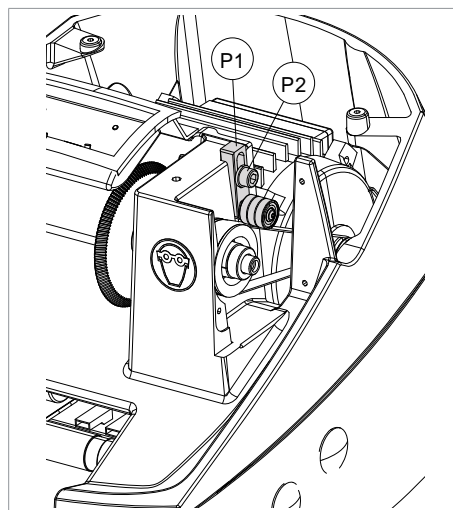

Fig. 54
- 5) Loosen the screw (P2) and remove the belt tightener (P1) (Fig. 54).
- 6) Loosen the screw (P2) and remove the belt tightener (P1) (Fig. 54).